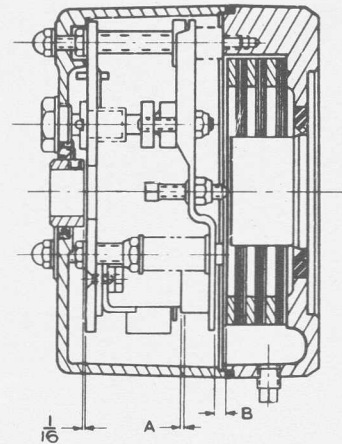

Figure 4. Brake Gap Adjustment
## WEAR ADJUSTMENT (See Figures 4 & 5)
**MANUAL RELEASE MODELS.** If manual release mechanism does not operate properly after adjusting pivot nut, set magnet gap "A" (refer to figure 4) to .040". Turn release camshaft (item 22) clockwise until it strikes stop pin and releases brake. Adjust locknuts (item 23) and jam nuts on life bar assembly (item 21) until magnet gap is .030" at narrowest point. **MANUAL RELEASE MUST BE IN "RELEASE" POSITION IN ORDER TO MAKE THIS MEASUREMENT.**